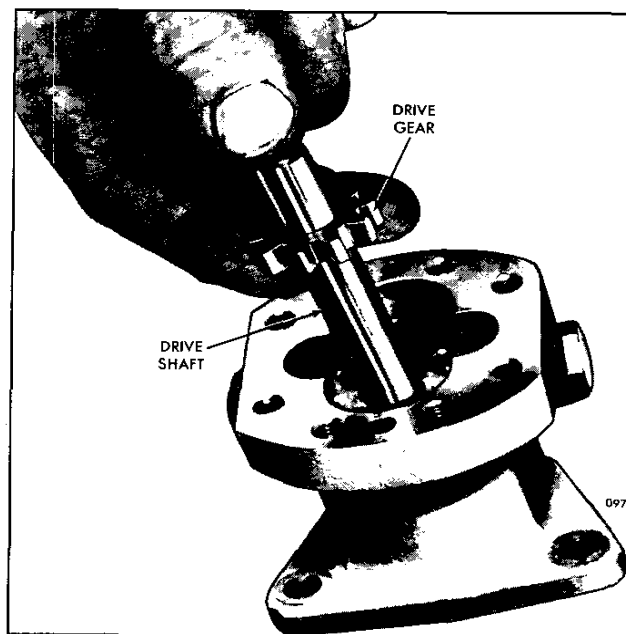

Fig. 9 – Installing Fuel Pump Drive Shaft and
4. Lubricate the pump shaft and insert the square end of the shaft into the opening at the gear side of the pump body and through the oil seals as shown in Fig. 9.